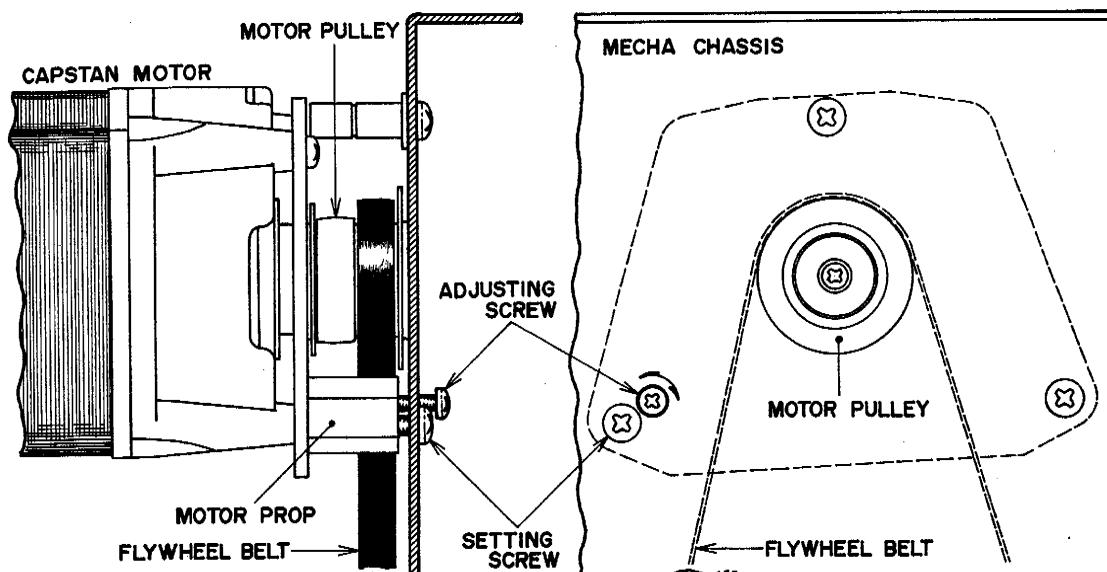

Fig. 17
- With capstan motor revolutions operating at Rev. mode, loosen setting screw and turn flywheel belt position adjustment screw until the flywheel belt comes to the center of the motor pulley. (Refer to Fig. 17)